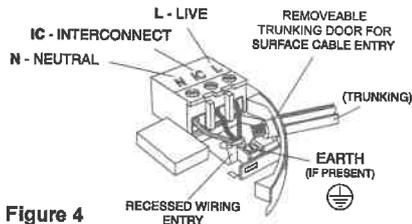

Figure 4
4. If the mains wires are recessed, bring the wires through the rear hole in the mounting plate as shown in **Figure 4**.
(a) position the mounting plate so the cable trunking is as shown in **Figure 4**.